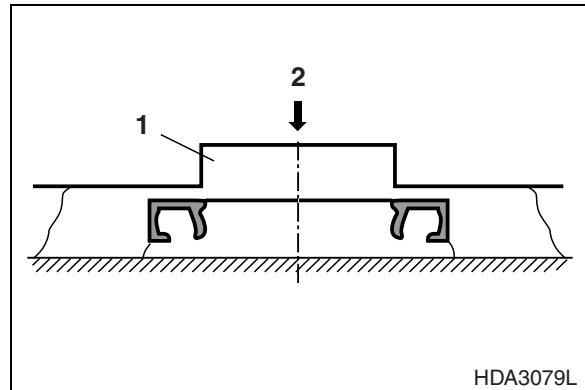

Figure 24
- A. Disassemble oil seal from the front cover if they were not separated during removal. Apply force (2, Figure 24) and use a plug (1) to hammer through drive shaft opening in cover.